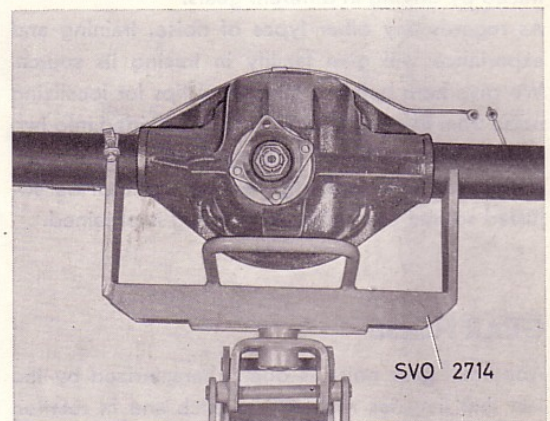

Fig. 55. Fixture for rear axle
1. Place the rear axle in fixture SVO 2714 on a garage jack, see Fig. 55. Move the rear axle in under the car and fit on the bolts for the support arms and torque rods.